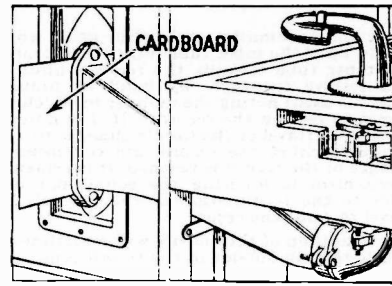

Fig. 10
1. Loosen the horn elbow as shown in Fig. 10.